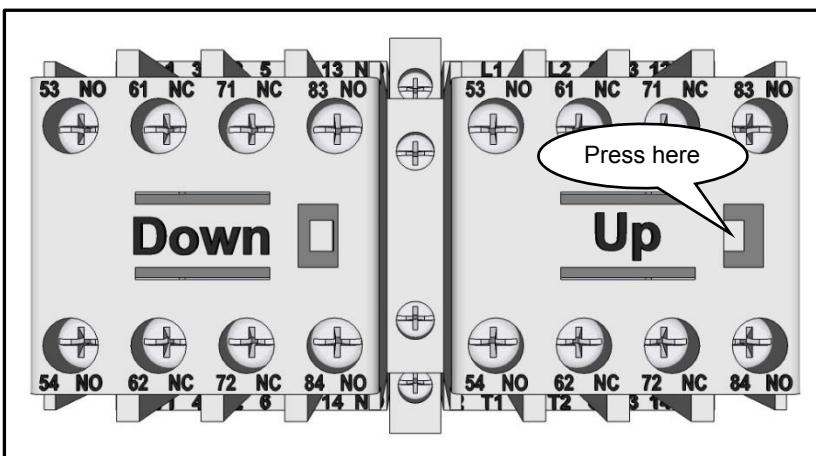

Figure 15
- 2** To check the motor rotation, open the control box and locate the Down "D" and Up "U" contactor. (see Figure 15)